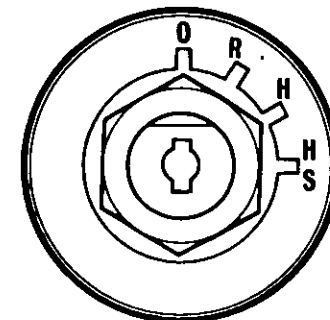

Fig. 5 Heat/start switch
3 Turn the start key to the 'S' or 'HS' position (see fig. 5), to engage the starter motor.
2 Turn the start key to the 'H' position (see fig. 5) and hold it there for 20 seconds.
4 Turn the key to the 'HS' position (see fig. 5) to engage the starter motor for a maximum of 30 seconds and operate the Start Pilot pump during this period. As the engine starts release the start key to the 'R' position and adjust the engine speed control to give a smooth idle speed.
- 2 Turn the start key to the 'H' position (see fig. 5) and hold it there for 20 to 30 seconds.
Either turn the engine start key to the 'O' position (fig. 5) or operate the separate stop control. Where a separate stop control is used, ensure that the control is returned to the 'run' position, after the engine has stopped and the engine start key is turned to the 'O' position.